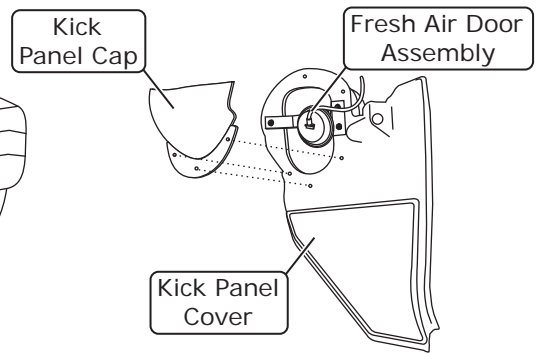

Figure 1b
11. Remove the passenger-side kick panel assembly (retain kick panel cover & kick panel cap, but discard the door and actuator) (See Figure 1b, below).
5. Install the evaporator front bracket onto the evaporator module using (2) 1/4-20 x 1" serrated flange bolts and (2) 1/4-20 well nuts as shown in Figure 1b, below.